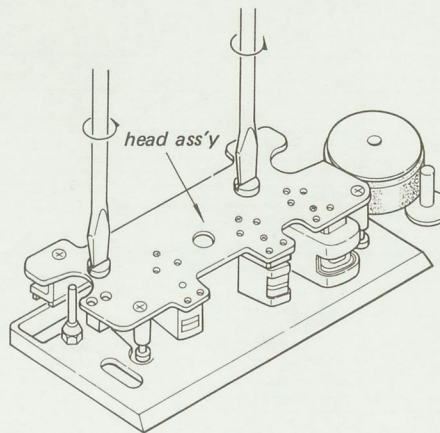

Fig. 3-4-1. Head ass'y removal
- (1) Lift the Head Cover by hand.
- (2) Remove two screws which secure the Head Assembly as shown in Fig. 3-4-1.
- (3) Lift the 4-track (2-track) Head Assembly out of the Head Deck.
- (4) Install the 2-track (4-track) Head Assembly.
- (5) Secure the Head Assembly with the two screws.
- (6) Install the Head Cover.